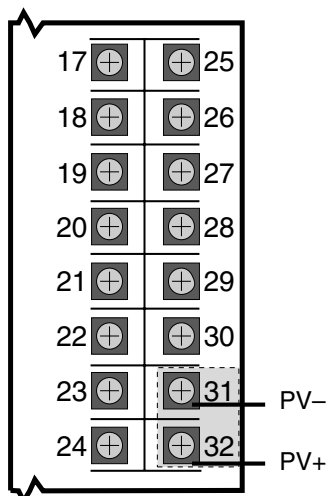

Figure D.3
4. Connect hook up wires between terminals 31 and 32 as shown in *Figure D.3*, and the multimeter.
1. Set the jumpers to **V** and **TC▲** on the Microcontroller Circuit Board (see *Figure D.3*).